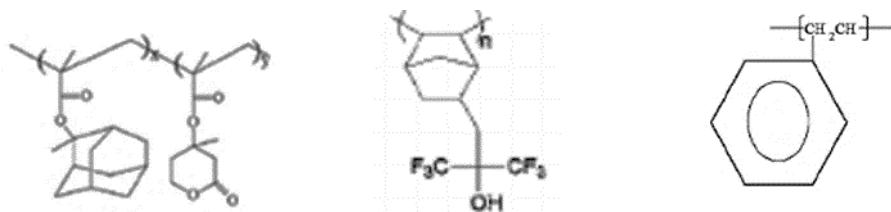

Figure 3/Rajah 3
- (b). Three (3) types of polymer photoresists are given as in Figure 3 below. Assign the possible wavelength technology of 157 nm, 193 nm and 248 nm for each of the structures. Explain your choice.